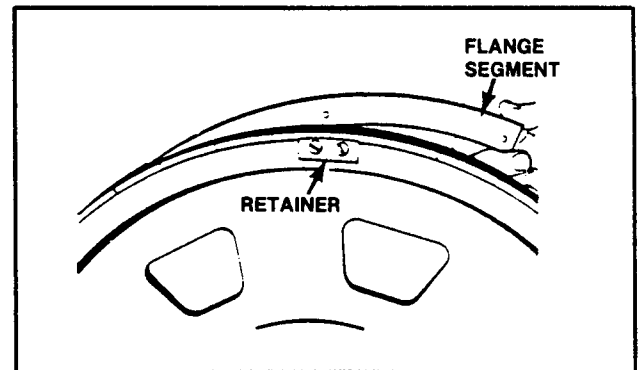

FIG. 27. REPLACEABLE FLANGE WHEEL SEGMENTS.
- (1) Removing wheel from machine.
- (2) Removing damaged segments.
- (3) Installing new flanged segments with their chamfered edge toward the tire. See Fig. 27.
- (1) Remove retainers from wheel front.
- (2) Remove tire from wheel. It may be necessary to cut it off.
- (3) Mount new tire with steel backing notches in alignment with retainers.
- (4) Install tire by tapping it lightly with a soft hammer. Rotate wheel about 30° as each tap is made -- until tire rests against flange.
- (5) Replace retainers as shown in Fig. 27 on page 15.